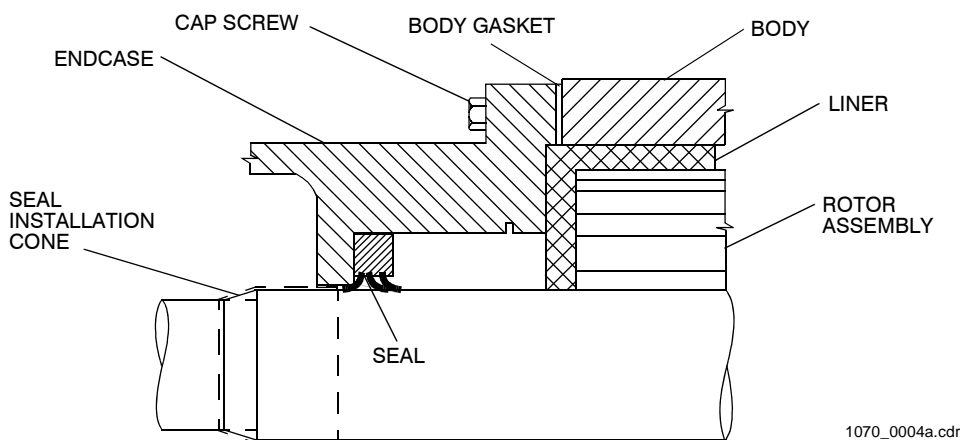

Figure 2-4. Single Lip Seal Installation (Model 160 will have double lip seal arrangement)
2. Install lip seals (19, Figure 4-1) in seal bores of endcases (15). Press seals all the way to the bottom of the bore as shown in Figure 2-4. We recommend using an arbor press to seat the seals. Installation tools are available from Edwards-Pentair Water.
3. Pre-lubricate grease seals (14) with approved grease (7, Table 2-1).
Lip seals have two lips on one side and one lip on the other side. The side with two lips must face toward pump body as shown in Figure 2-4.